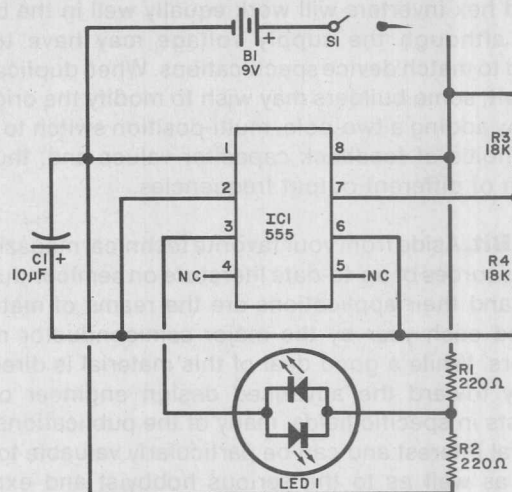

Fig. 2. Reader's flasher circuit uses a 555 timer and a dual-element LED.
**Reader's Circuits.** Apparently, my discussion of LED's and their applications in last October's column struck a responsive chord among our readers. A number have suggested modifications of the basic circuits I discussed, several have written of their own experiences with these intriguing devices, and others have submitted original designs for new applications. The LED flasher circuit given in Fig. 2, for example, was submitted by Michael E. Lindsey (2625 Fairgreen Drive, Pittsburgh, PA 15241).